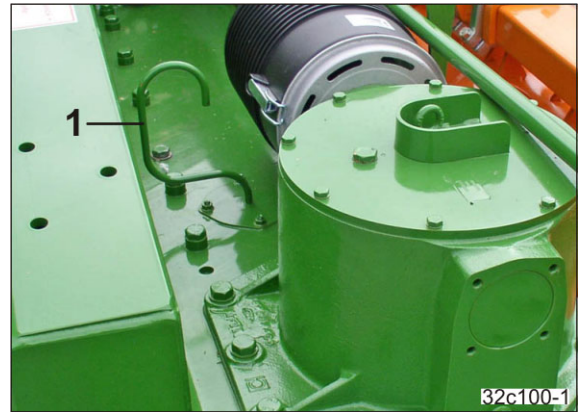

Fig. 134
The spur gear trough is equipped with a ventilation pipe (Fig. 134/1). Ventilation must be ensured to prevent the spur gear trough from developing leaks.
2. Open the cover with the ventilation pipe (Fig. 134/1).